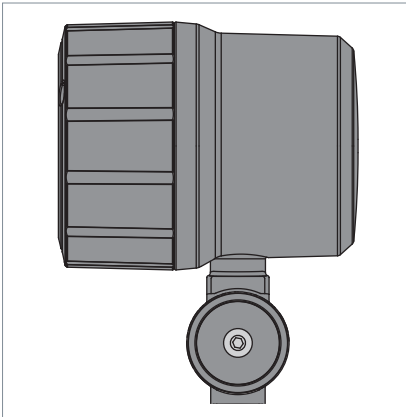

Fig. 4: Pivot and pivot screw.
- ▶ For luminaires fitted with pivots: Tighten each pivot screw until the luminaire is fixed in the desired position, see Fig. 4